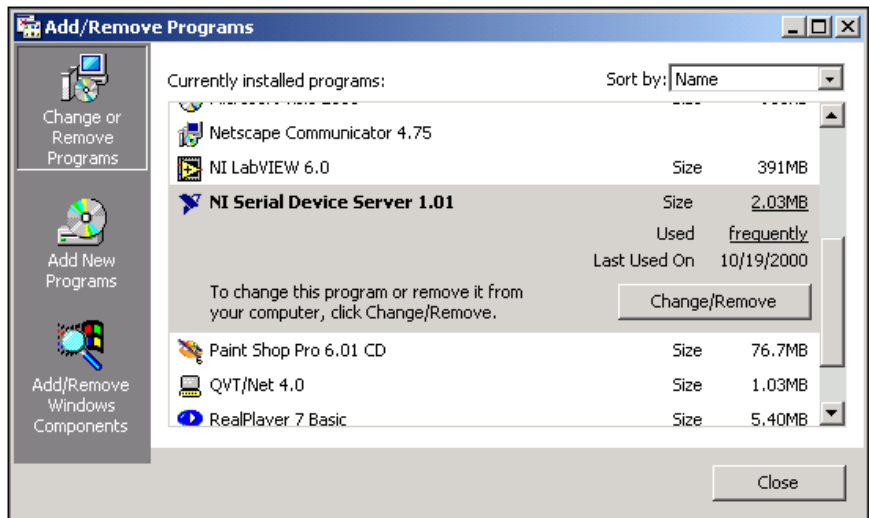
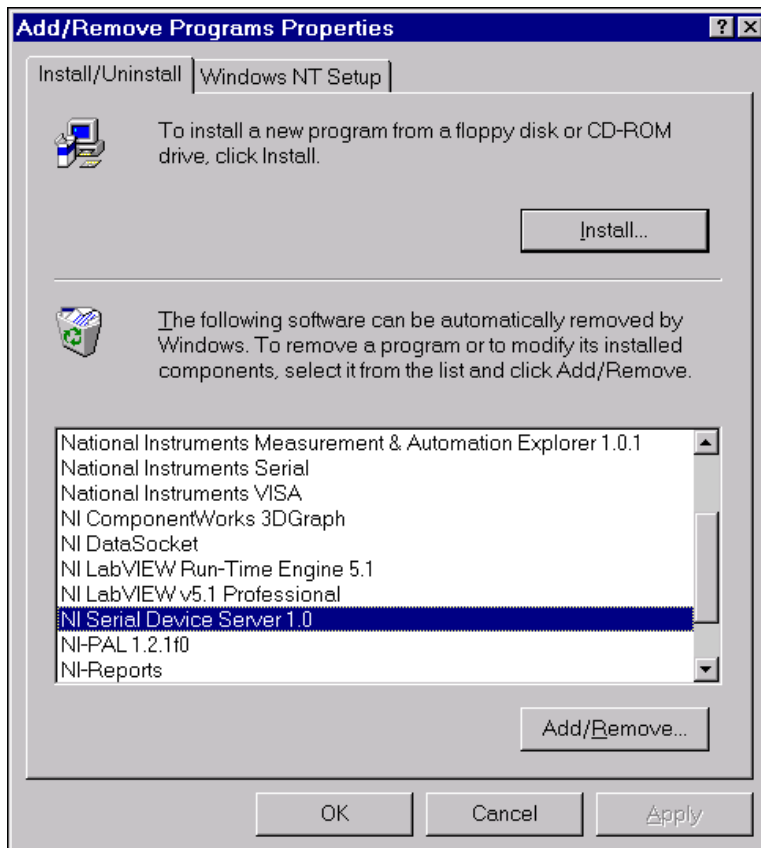

Figure A-1. Add/Remove Programs Dialog Box for Windows 2000
Figure A-2. Add/Remove Programs Dialog Box for Windows NT
2. Double-click the **Add/Remove Programs** icon. A dialog box appears with a list of the software you can uninstall. See Figure A-1 if you are using Windows 2000 or Figure A-2 if you are using Windows NT.